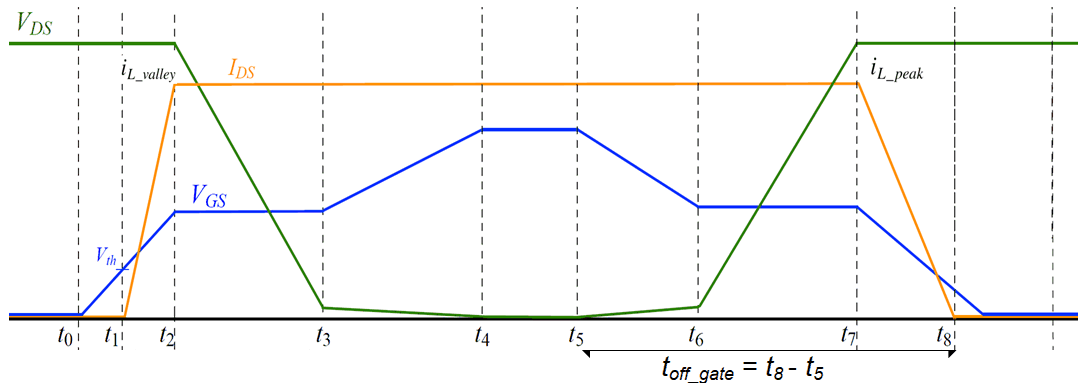

Figure 2-1. MOSFET Switching Waveforms
The intrinsic capacitances of a MOSFET (C_{iss} , C_{oss} , C_{rss}) decide the switching behavior. Figure 2-1 shows the switching process of a usual Boost device low-side MOSFET and then the role of these capacitances is explained.
1. Increased switching losses: slower switching transitions increase the time during which high voltage and high current overlap (t_1 to t_3 and t_6 to t_8 in Figure 2-1), leading to high switching losses (P_{sw}) and low efficiency.